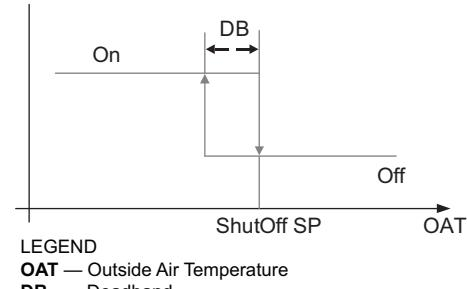

Fig. 73 — Hysteresis Settings
Hysteresis setting (DB) defaults to 2°F (−17°C). See Fig. 73.